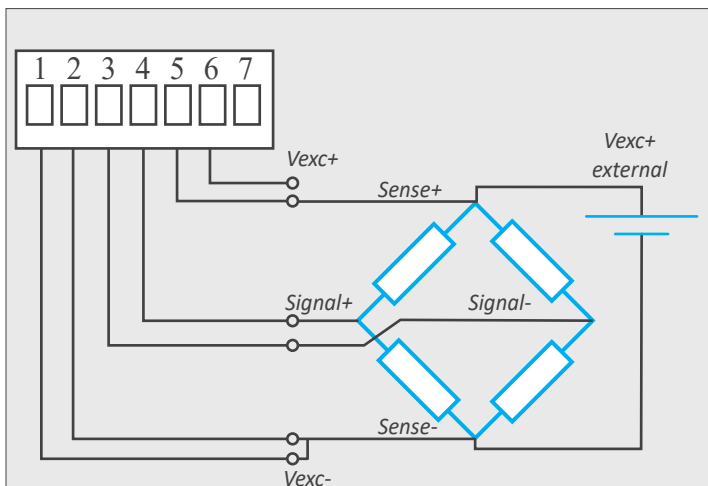

Figure 10 - Connections for external power
- Connect the load cell normally, and **do not** connect 'Vexc+'. Connect 'Sense+' and 'Sense-' to the load cell. 'Vexc-' must be connected to 'Sense-'. See Figure 10.